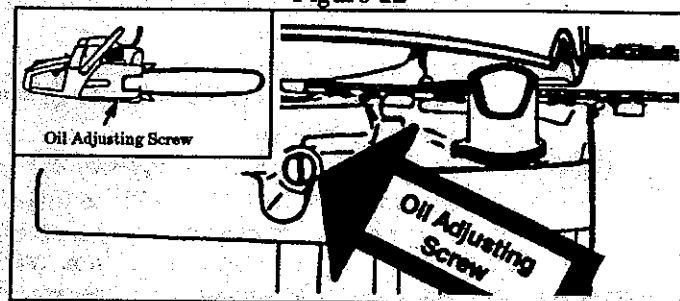

Figure 13
- **The adjusting screw is located at the bottom of the saw on the crankcase next to the bar clamp housing (Figure 13) and can be adjusted with the screwdriver end of the srench provided with your saw.**